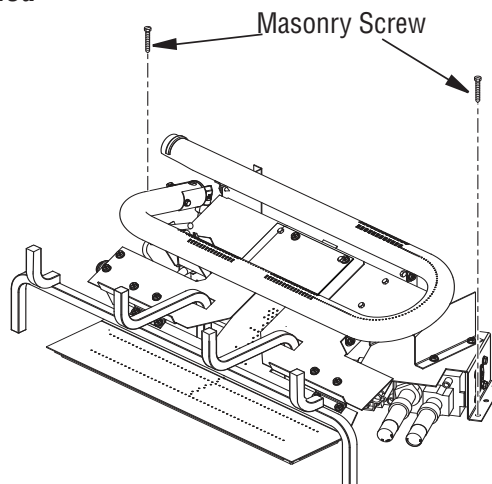

Figure 12 - Attaching Base to Fireplace Floor
3. Mark screw locations through holes in front panel of base (see *Figure 12*). If installing in a brick-bottom fireplace, mark screw locations in mortar joint of bricks.
6. Attach base, through holes in back side panels of base, to fireplace floor using masonry screws provided in hardware package (see *Figure 12*).